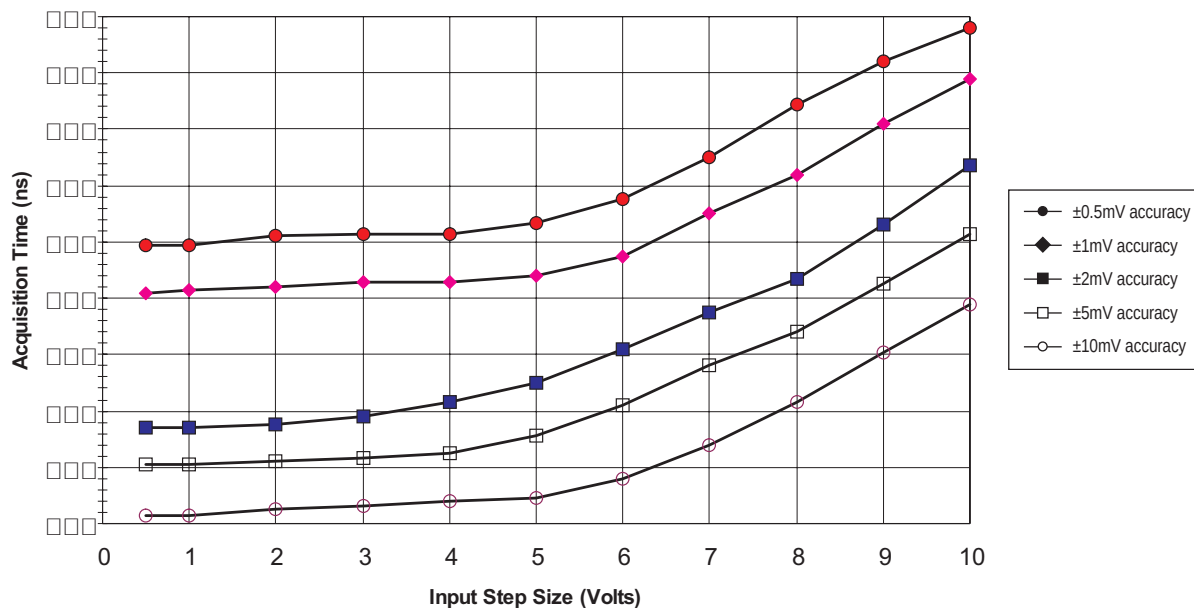

Figure 4. Acquisition Time versus Accuracy and Step Size
① Pins 3 and 4. ② See Figure 4 for relationship between input voltage, accuracy, and acquisition time. ③ Pins 6 and 22.
6. See Figure 4 for acquisition time versus accuracy and input voltage step amplitude.
As shown in the plot (Figure 4) of acquisition times vs. input signal step size, the S/H's internal to the CDS-1401 acquire smaller-amplitude signals quicker than they acquire larger-amplitude signals. In "maximum-throughput" applications, assuming "asymmetric" timing can be accommodated, each S/H should only be given the time it requires, and no more, to acquire its input signal. Leaving a S/H amp in the sample mode for a longer period of time has little added benefit.